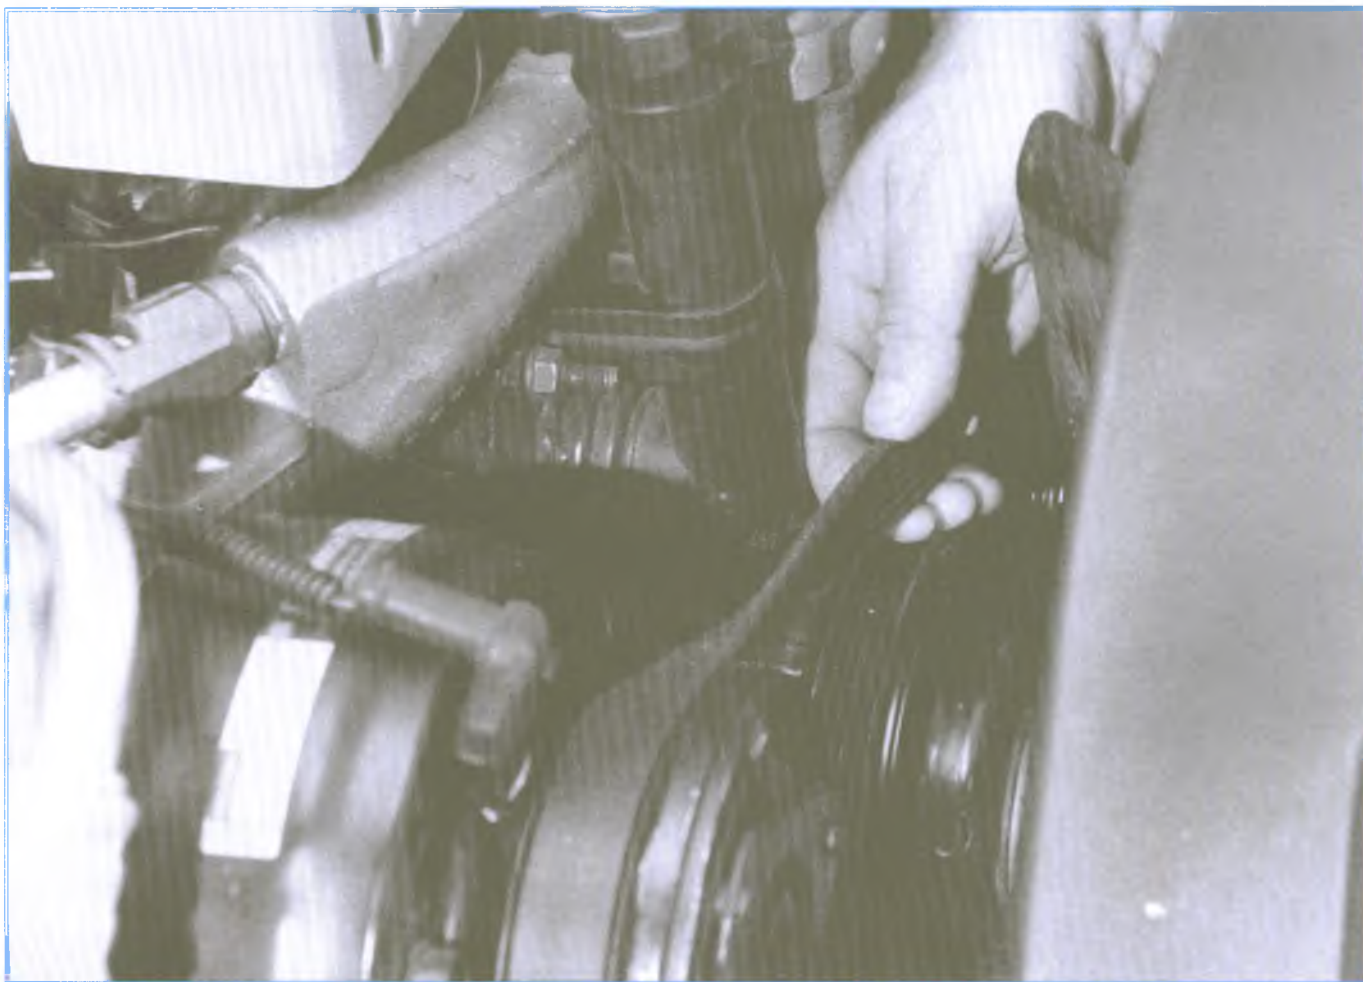

Figure 5-11, Drive Belt System Inspection
- A. Observe if the drive belt stays aligned with the pulleys during engine operation (see Figure 5-11):